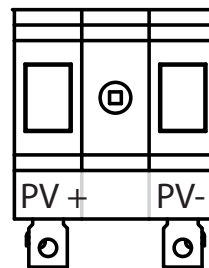

Figure 47: Disconnecting the PV cables (Basic + M version)
1. Detach the DC cables from the PV+ and PV- terminals on the DC switch (see Figure 47 on page 52).